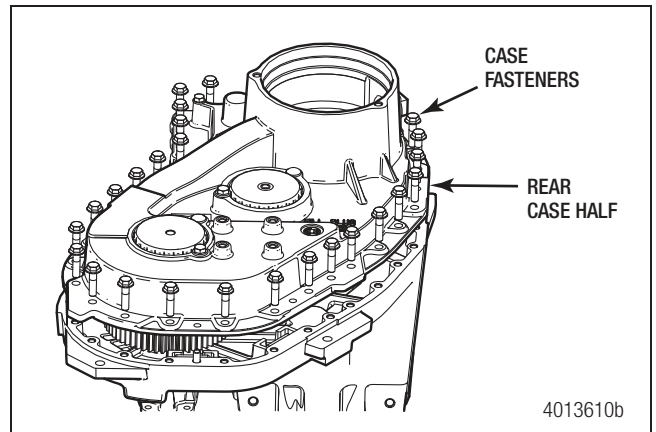

Figure 4.14
17. Remove the case capscrews from the rear case half. Figure 4.14